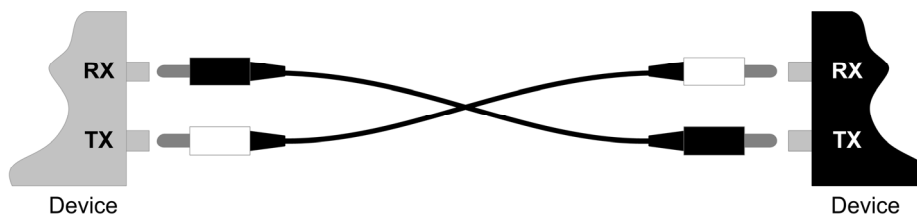

Figure 11: Fiber Cable Connections
3.	Connect the fiber cable as shown in Figure 11.